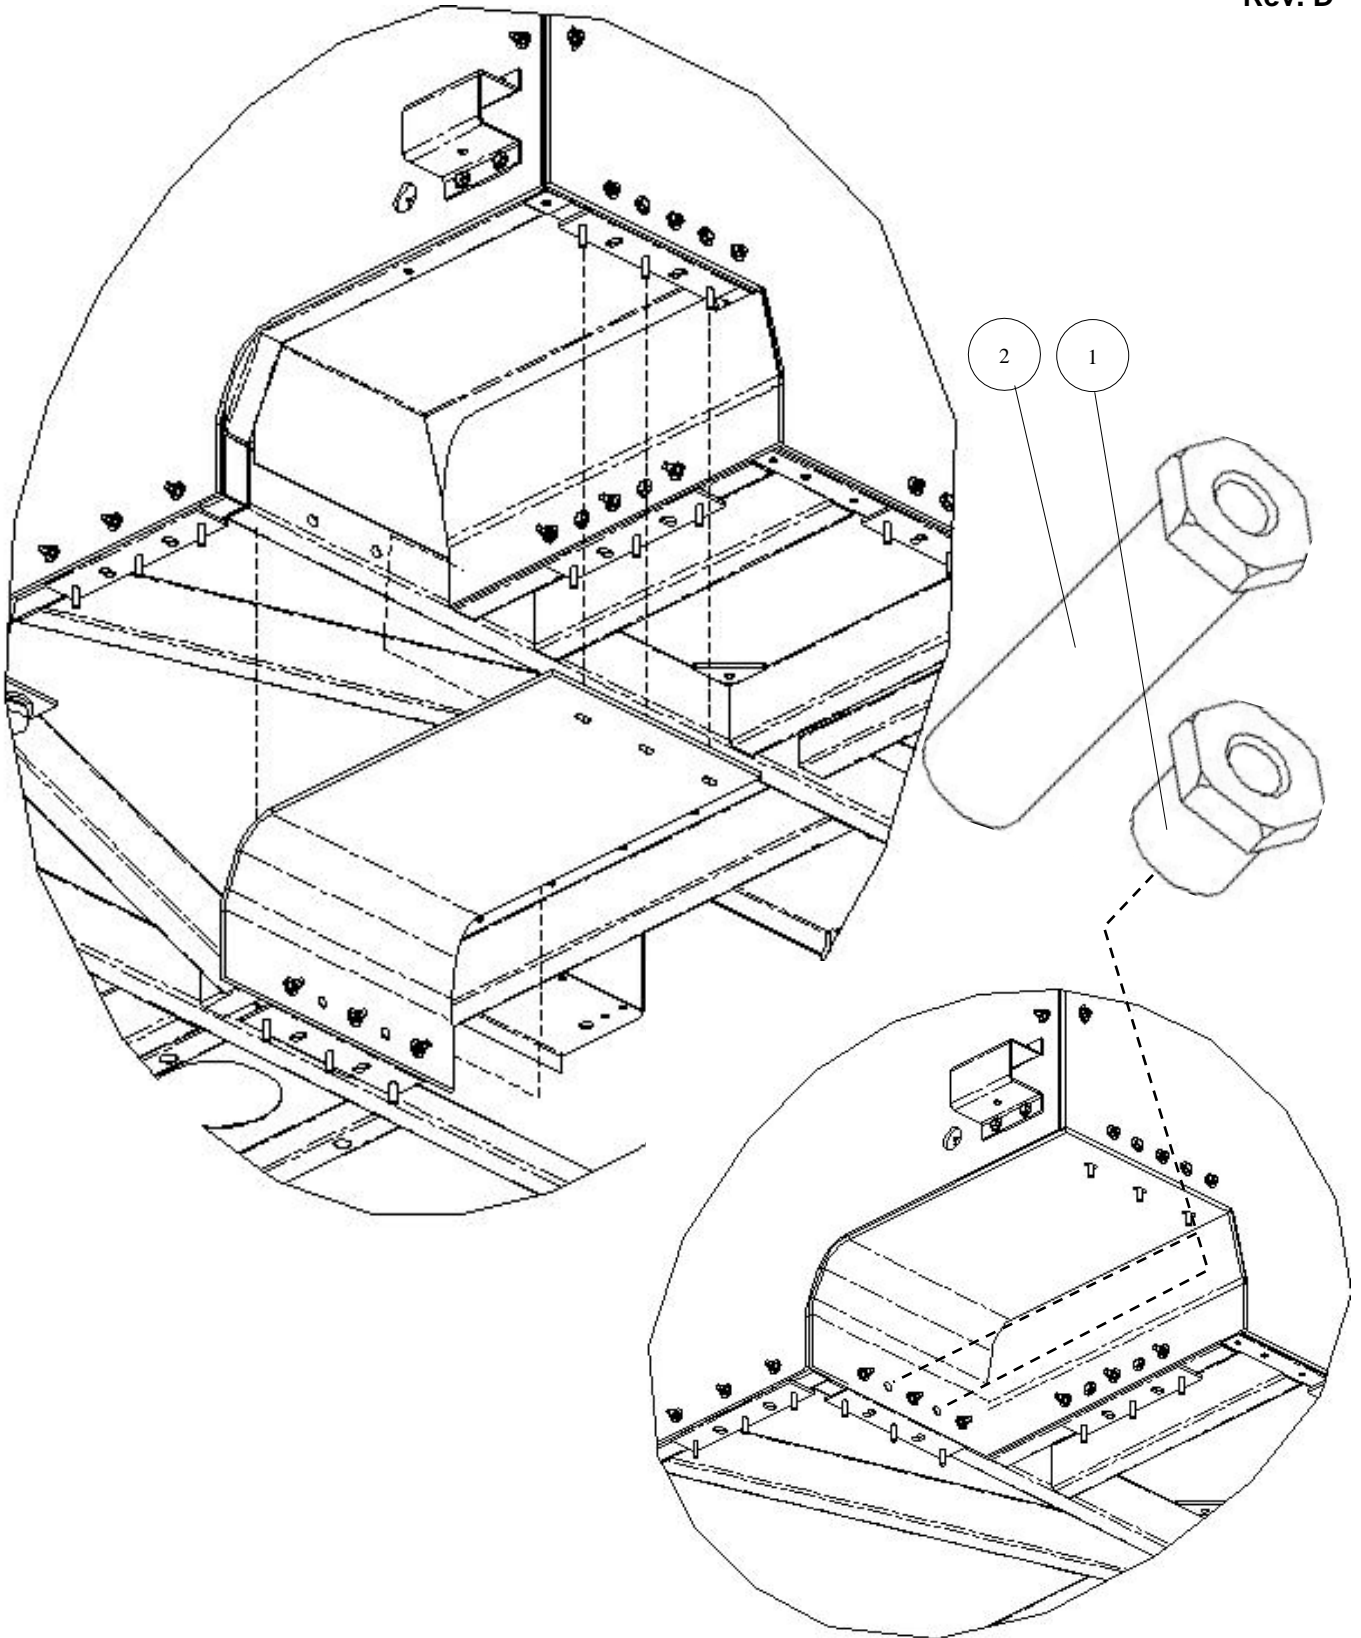

Figure 3-30. Match-Drill Cab Frame Rail.
5. Match-drill cab frame rail as follows (see Figure 3-30):
The following procedure is used for each of the holes shown in Figure 3-30.